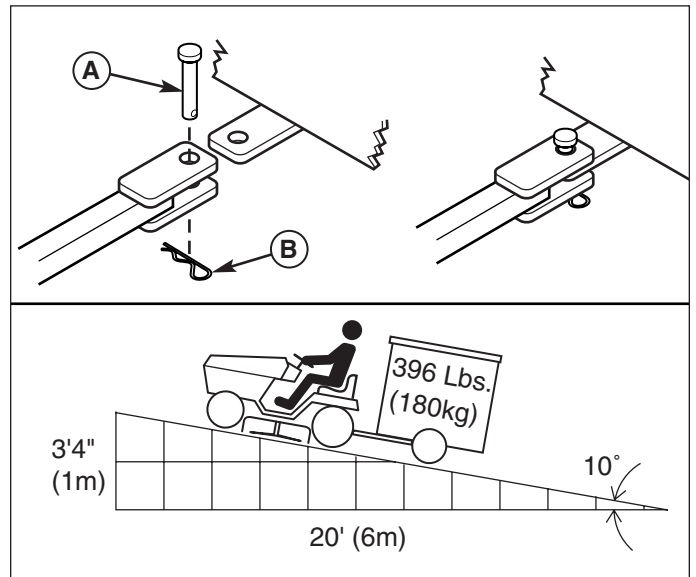

Figure 7. Trailer Weight Recommendations
The maximum horizontal drawbar force allowed is 444 Newton. The maximum vertical drawbar force is 222 Newton. This equates to a 396 lbs (180 kg) trailer on a 10 degree hill. Secure the trailer with an appropriately sized clevis pin (A, Figure 7) and clip (B).